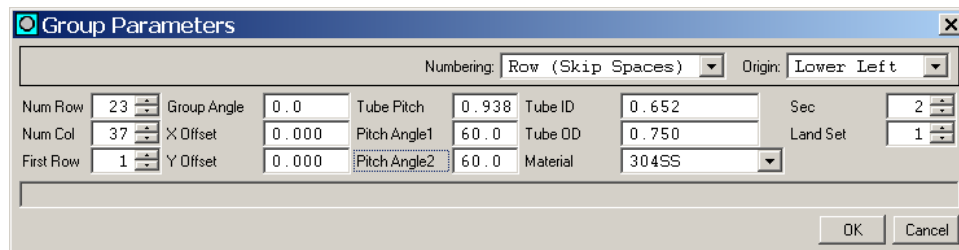

Figure 64. Completed Group Parameters Dialog for Section 2
- STEP 8:** The *Group Parameters* dialog should look like Figure 64. Click **OK** on the *Group Parameters* dialog.